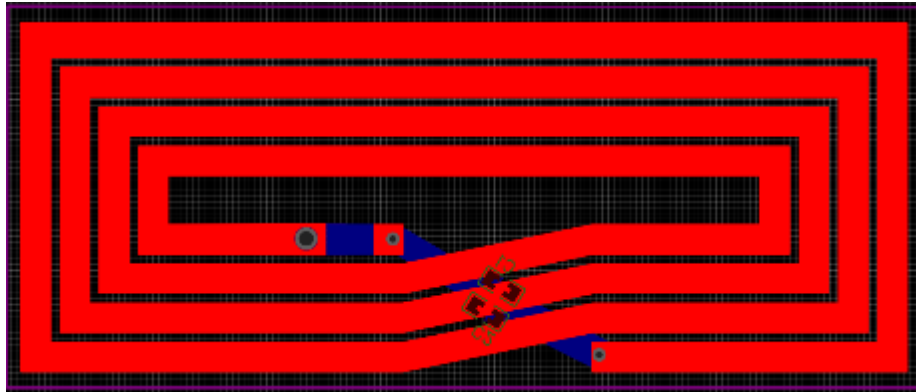

FIGURE 10
2. Export to EASYEDA program to generate solid region and create via and set layer of coil as show in Fig.10.